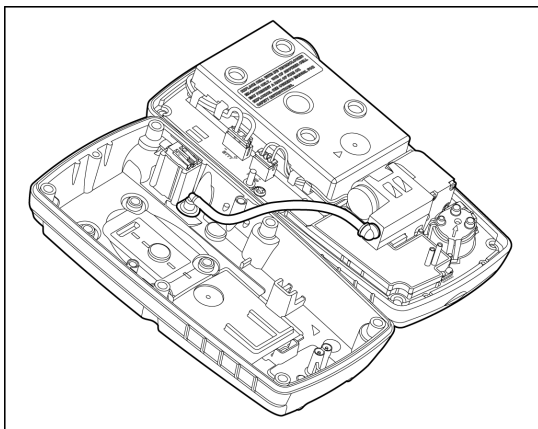

Figure 10. Front and Rear Shells Side by Side
- Figure 10., and
4. Because the pump hose is connected to the rear shell and front shell pump, carefully remove the rear shell by lifting upward and tilting to the left. The front and rear shells are laying flat side by side (Figure 10).